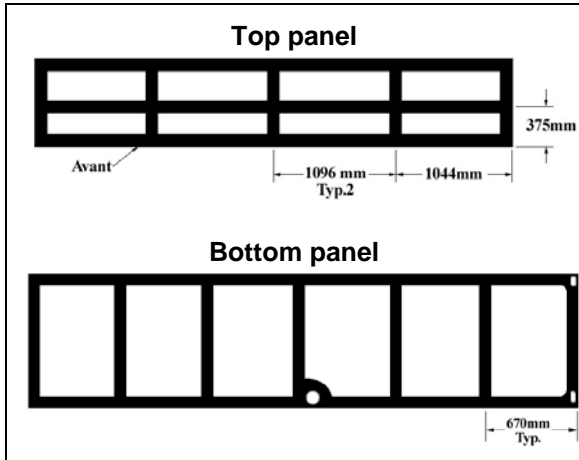

FIGURE 46: TOP AND BOTTOM PANEL INSTALLATION - SIKA 206 G+P APPLICATION
3. Apply Sika 206 G+P on panel as shown in figure 46